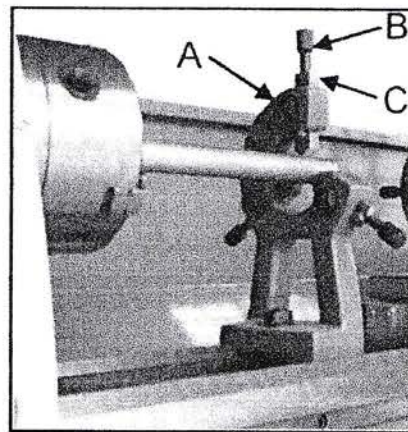

Fig. 36
1. Loosen three hex nuts. (A, Fig.36)
1. Loosen knurled screw (B, Fig.36) and open the sliding fingers. (C, Fig.36) until the steady rest can be moved with its finger around the workpiece. Secure the steady rest in position.
2. Tighten knurled screws so that fingers are snug but not tight against the workpiece. Tighten three nuts (A, Fig.36). Lubricate the sliding points with machine oil.